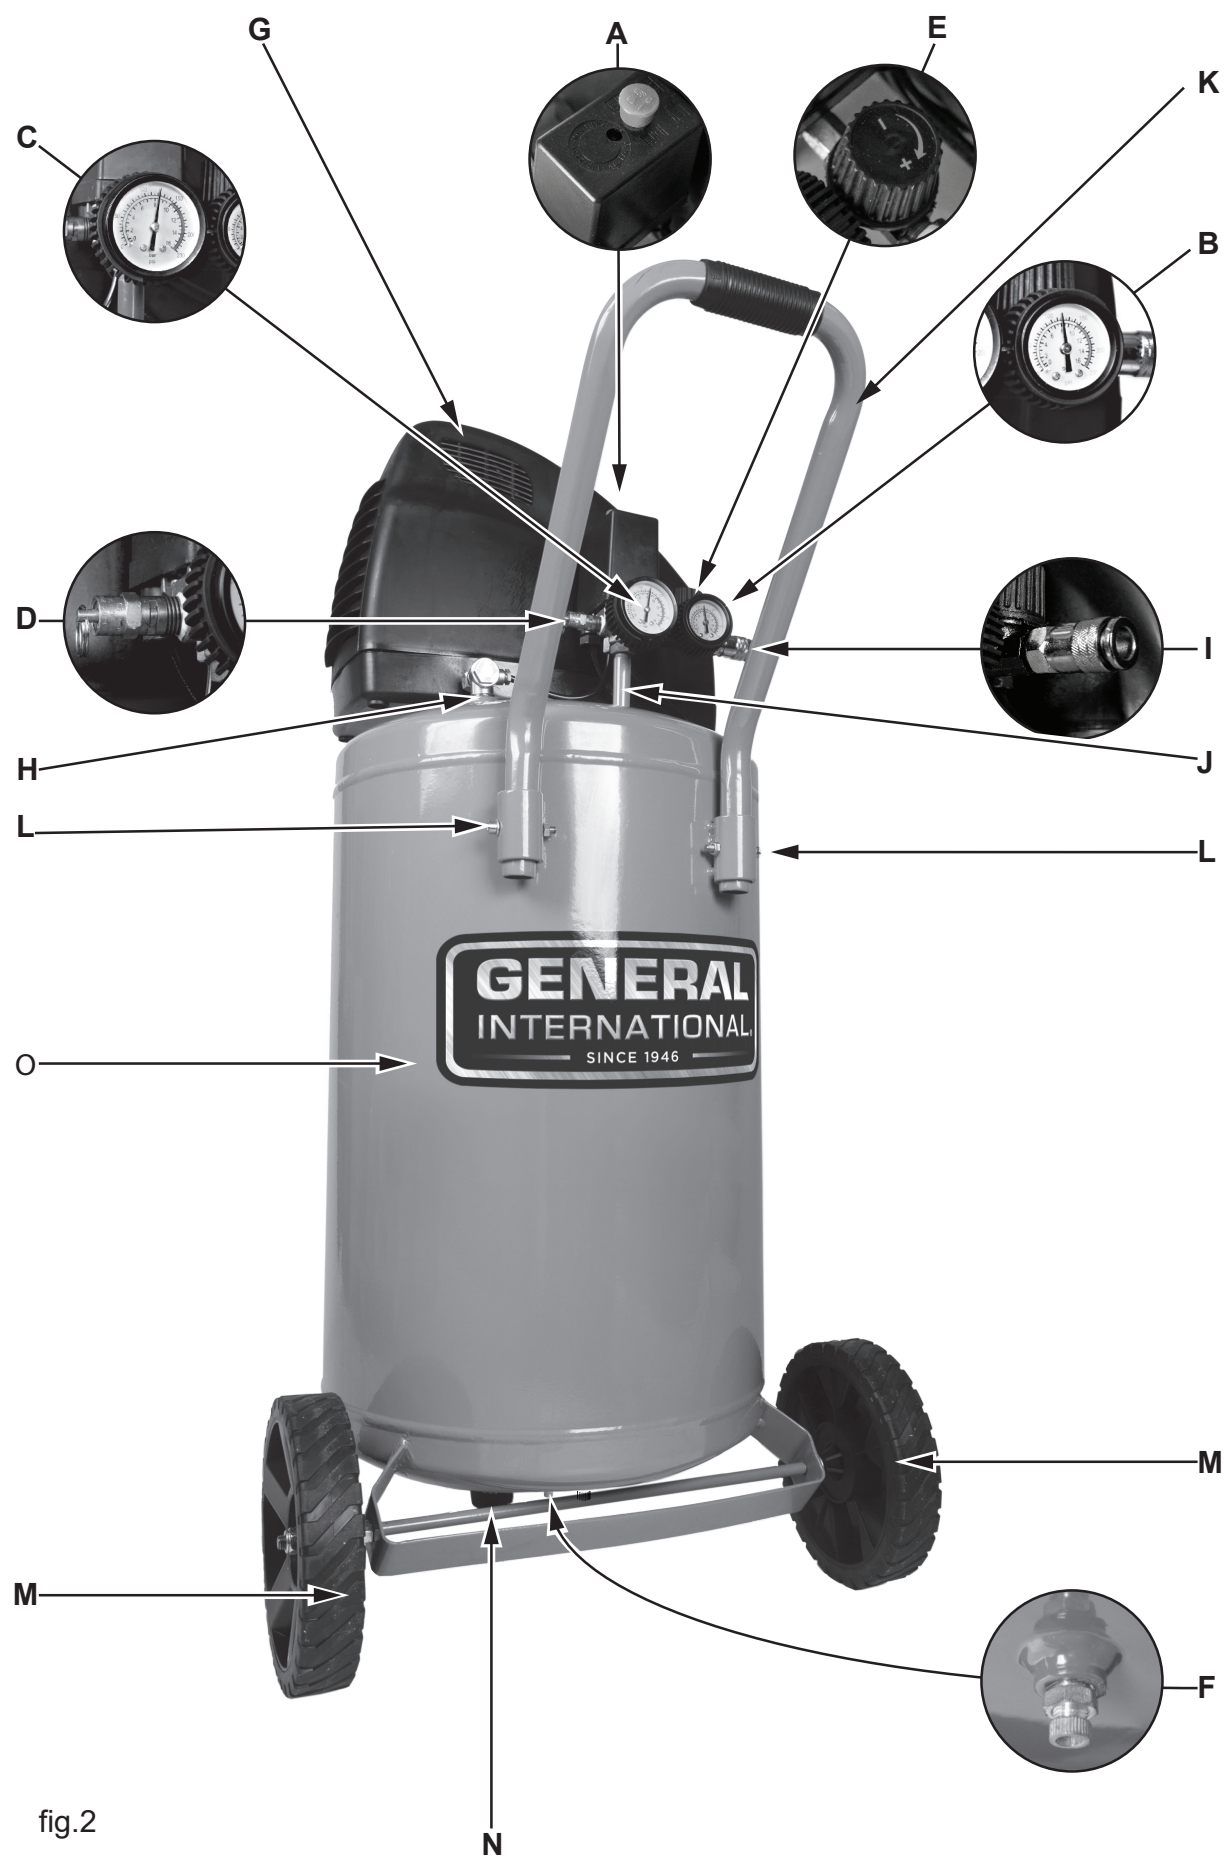

fig.2
1. Set the Power Switch to the OFF (0) position (A, fig.2).
3. Close the drain valve (F, fig 2).